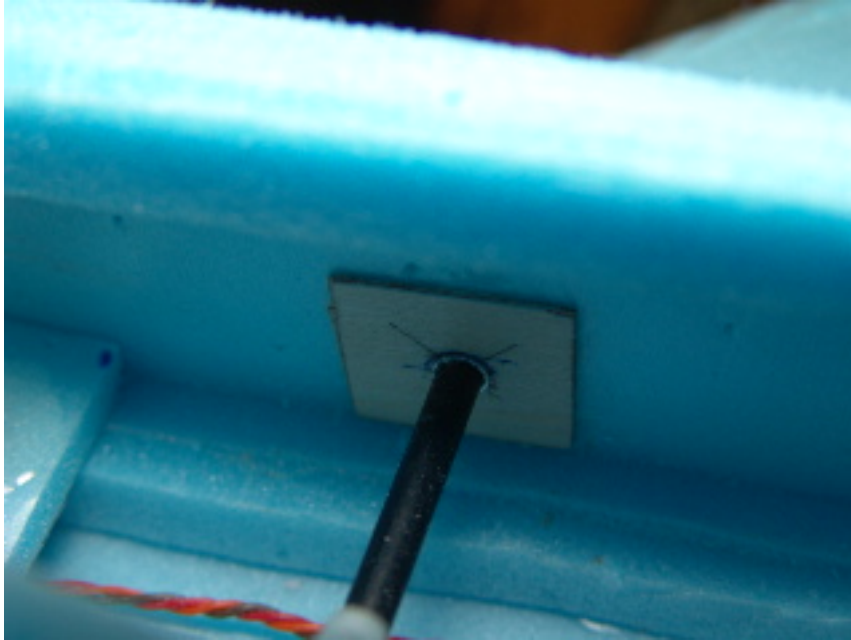

Fig. 1
- g) Epoxy tubing in place. But do not get any glue in the tube itself. I like to take a piece of CF tubing and run it all the way through both sides while the tubes are drying to keep a somewhat good alignment. See Fig 1.